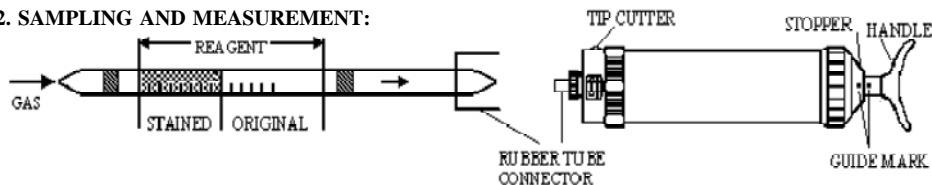

Fig.1
- ① Break both ends of detector tube.
- ② Insert the detector tube into aspirating pump securely as shown in Fig.1. (Arrow mark shall point to the pump.)
- ③ Align the guide marks on the shaft and stopper of the aspirating pump.
- ④ Pull the pump handle at full stroke until it locks and wait for 1.5 minutes or until the completion of sampling is confirmed with the flow indicator of the pump (See descriptions about the flow indicator in the instructions of the pump).
- ⑤ Push the handle without removing the detector tube from the inlet, and air in the pump will be
- ⑥ discharged perfectly. Then repeat the step ④ twice again.
- ⑥ On completion of sampling, read the scale at the maximum point of the stained layer.